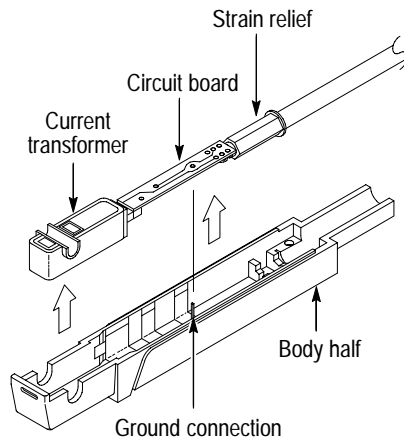

Figure 12: Removing the current transformer of the A6302XL probe
1. To replace the current transformer, lift the transformer out of the probe as shown in Figure 12, and pull it out of the circuit board socket.